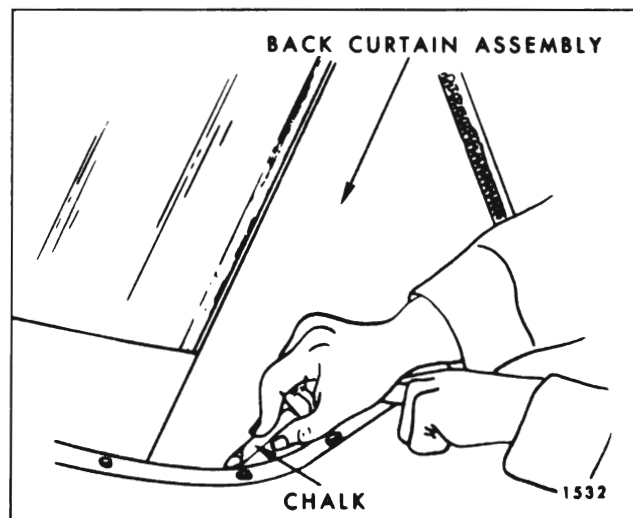

Fig. 13-21—Marking Back Curtain
17. Where required, place reference chalk mark on outer surface of back curtain along pinchweld finishing molding. Re-adjust back curtain assembly as required (Fig. 13-21).